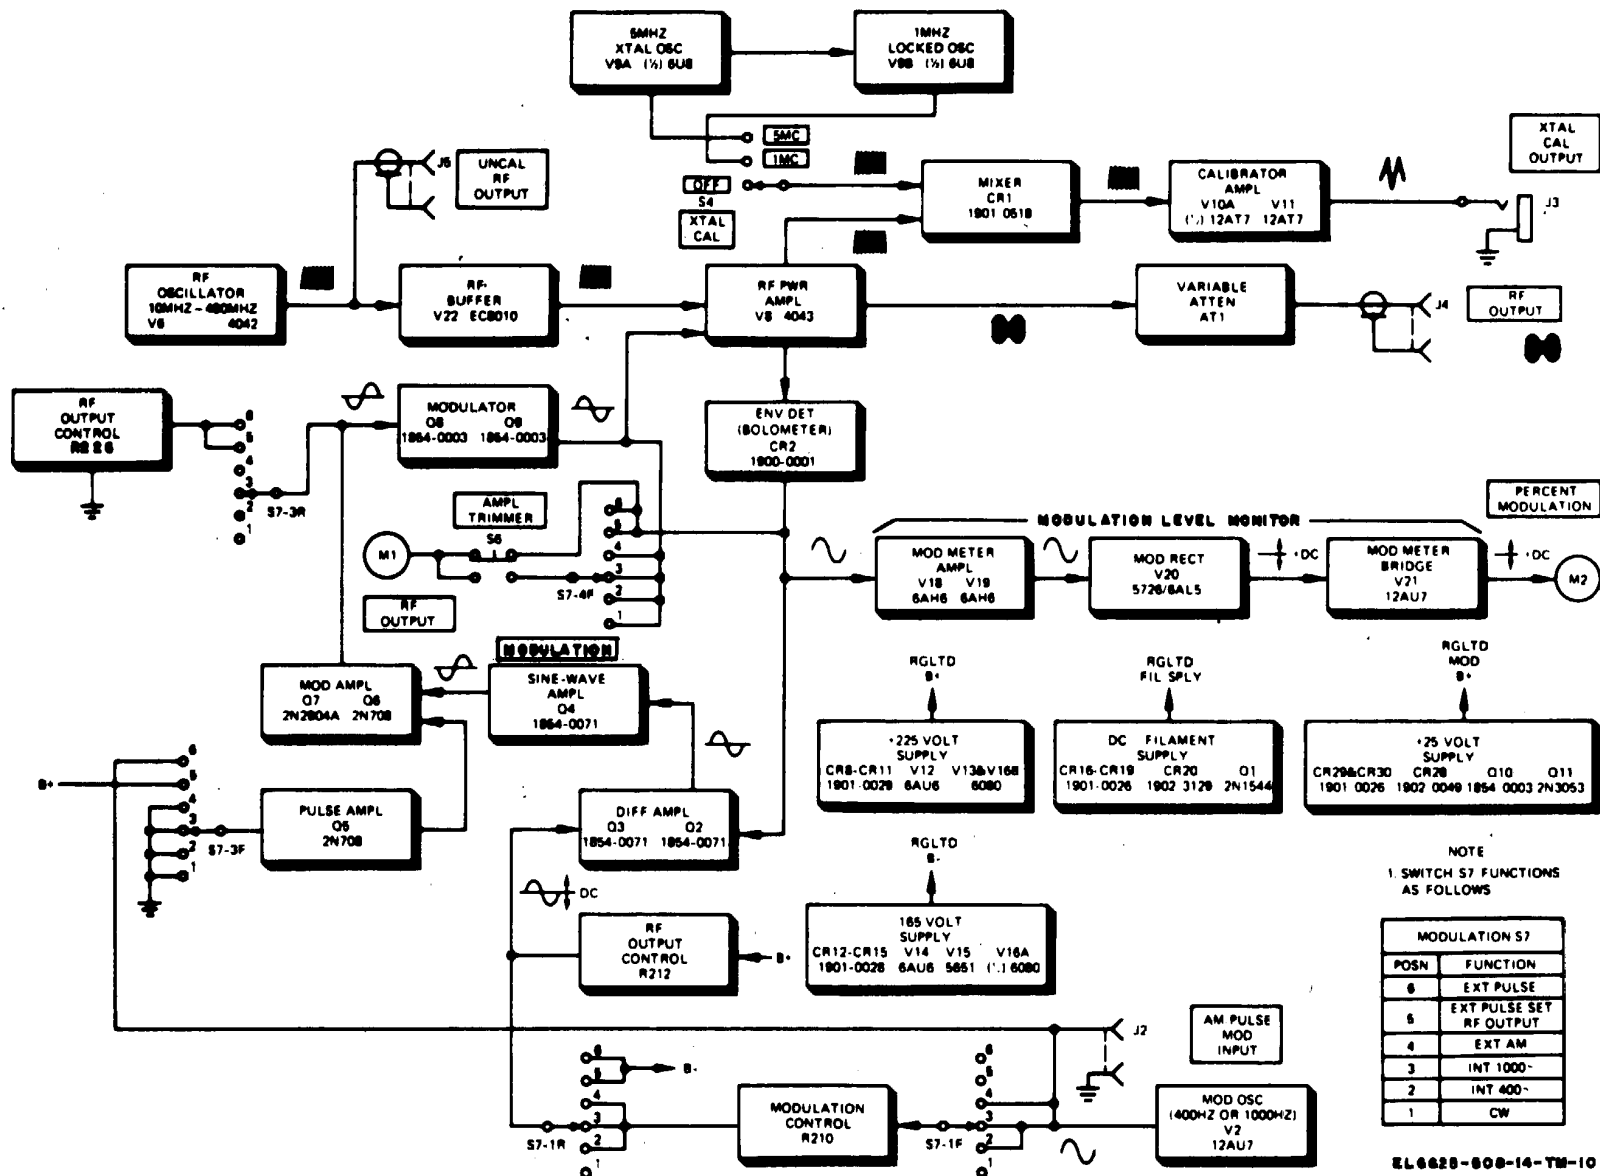

Figure 5-1. Generator, Signal TS-510B/U, block diagram.
a. Signal Generator. The TS-510B/U is a very-high-frequency rf signal generator employing a master oscillator-power amplifier design. The signal generator is used to test, evaluate and align radio receivers, filters, amplifiers, and other similar electronic networks. Signal paths and waveforms are shown on the block diagram figure 5-1, and are discussed in *b* through *l* below. For complete circuit details refer to over-all schematic diagram, figure FO-2.
Paragraphs 5-4 through 5-21 present a detailed analysis of each stage. To understand the general over-all function of all circuits in this equipment, periodic reference should be made to the system block diagram shown in figure 5-1, and to the complete schematic diagram (fig. FO-2).